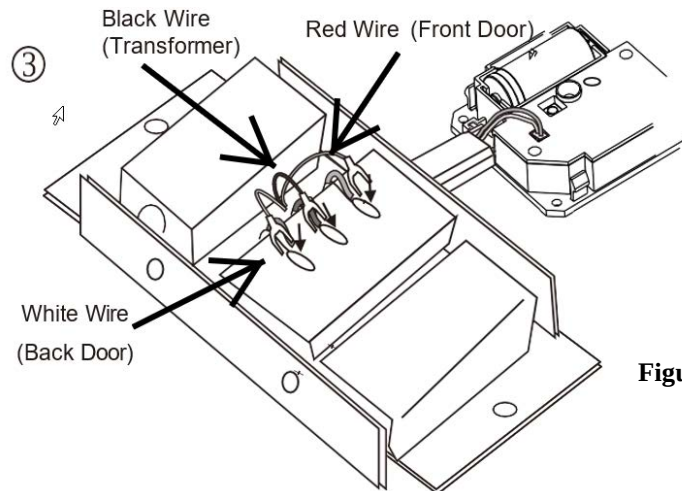

Figure 5
- Connect the red wire from the transmitter to the front door terminal screw on your wired doorbell (see Figure 5).